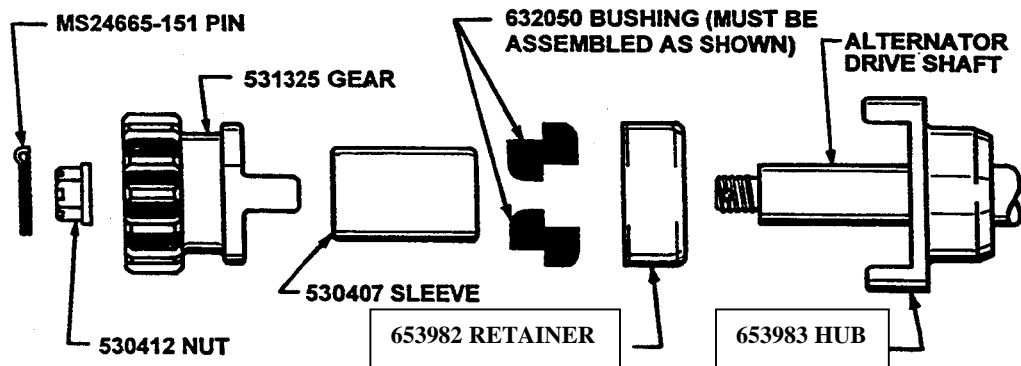
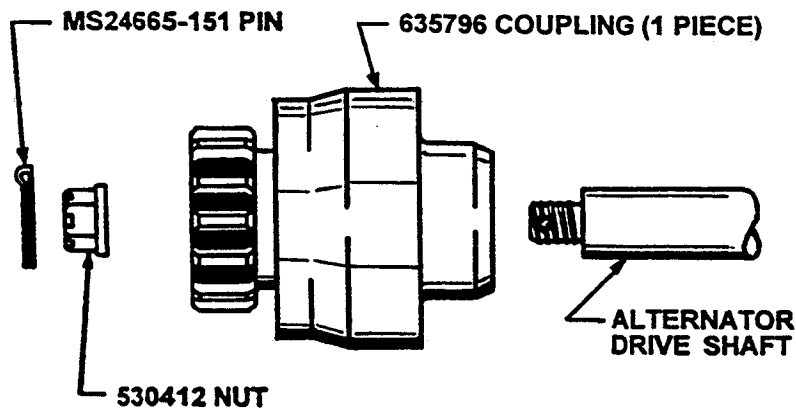

FIGURE 1
FIGURE 2
A. INSPECTION OF COUPLING ASSEMBLY - SEE FIGURE 1.
3. Identify the type of drive coupling that is installed on the alternator or generator. See Figures 1 and 2. If one piece coupling P/N 635796 (see Figure 2) is installed, refer to section B for inspection and testing of one piece coupling. If coupling assembly (see Figure 1) is installed, proceed as follows.
6. Install new replacement P/N 653982 retainer and two P/N 632050 bushings into the P/N 653983 hub on the alternator shaft. Bushings must be installed as indicated in Figure 1. Install P/N 530407 sleeve, P/N 531325 gear and P/N 530412 nut.
B. INSPECTION AND TESTING OF ONE PIECE COUPLING - SEE FIGURE 2.
The P/N 635796 single piece coupling is designed to slip when abnormal torque is required to rotate the alternator/generator. This can prevent internal engine damage in the event of an alternator/generator seizure. The one piece coupling may be substituted for the coupling assembly shown in Figure 1.